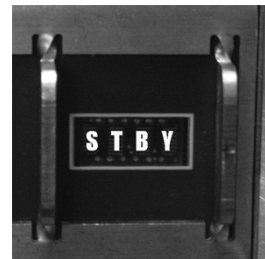

Figure 13
- After Toasting:** After toasting is complete, the Done Alarm will sound for 7 seconds. If the platen is left closed, the Toaster Grill will automatically enter the Standby Mode and the display will read "STBY". Open the Toaster Grill to reactivate it from Standby Mode. (See **Figure 13**.)